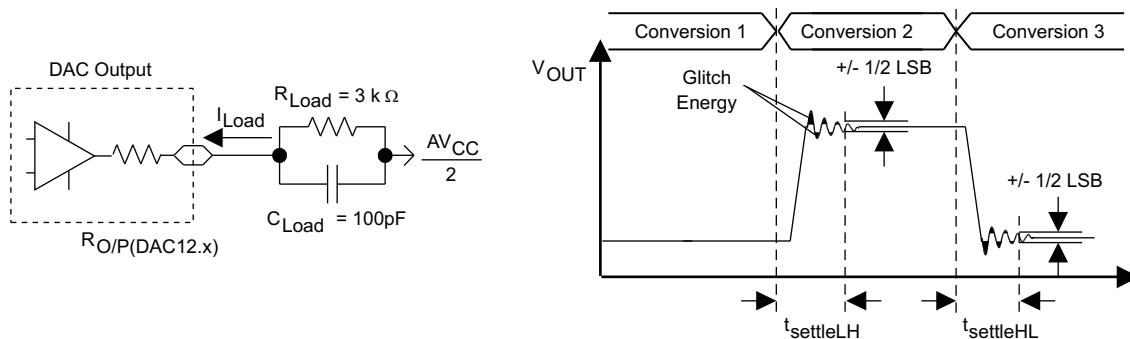
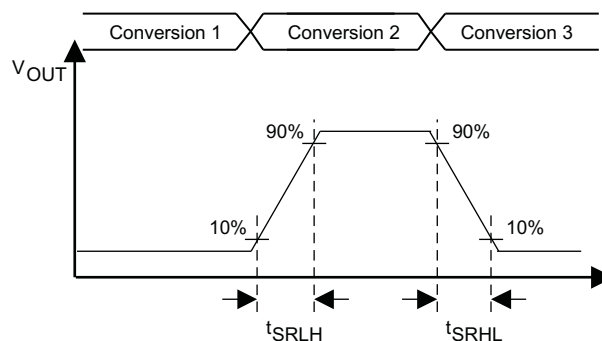

Figure 5-30. Settling Time and Glitch Energy Testing
Figure 5-31. Slew Rate Testing
$V_{ref} = V_{CC}$ , DAC12IR = 1, over recommended ranges of supply voltage and operating free-air temperature (unless otherwise noted) (see Figure 5-30 and Figure 5-31)
- (1)  $R_{Load}$  and  $C_{Load}$  connected to  $AV_{SS}$  (not  $AV_{CC}/2$ ) in Figure 5-30.
(2) Slew rate applies to output voltage steps  $\geq 200$  mV.